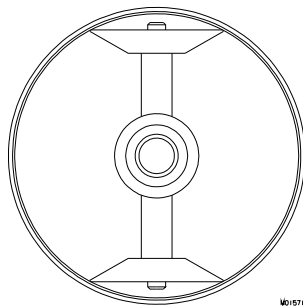

Figure 7-3 Scraper Blade Installation
4. Place the scraper blades on the beater shaft, making sure the blades are installed properly (see figure 7-3).